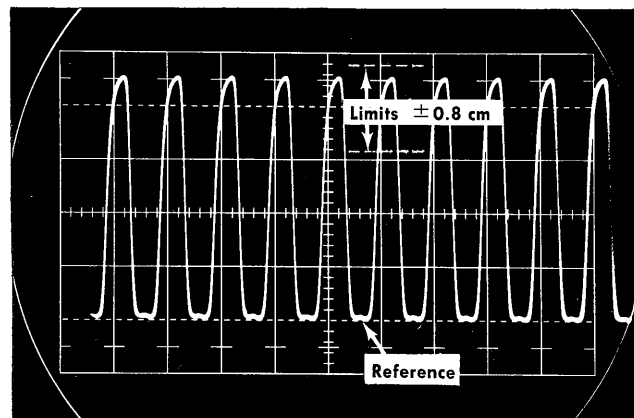

Fig. 6-15. Typical display of Trigger Output signal.
c. Check that the trigger signal amplitude is 200 mV  $\pm$  40 mV (4 cm  $\pm$  0.8 cm); see Fig. 6-15. Also check the trigger signal amplitude with the PERIOD switch at 1 μs and 10 μs.